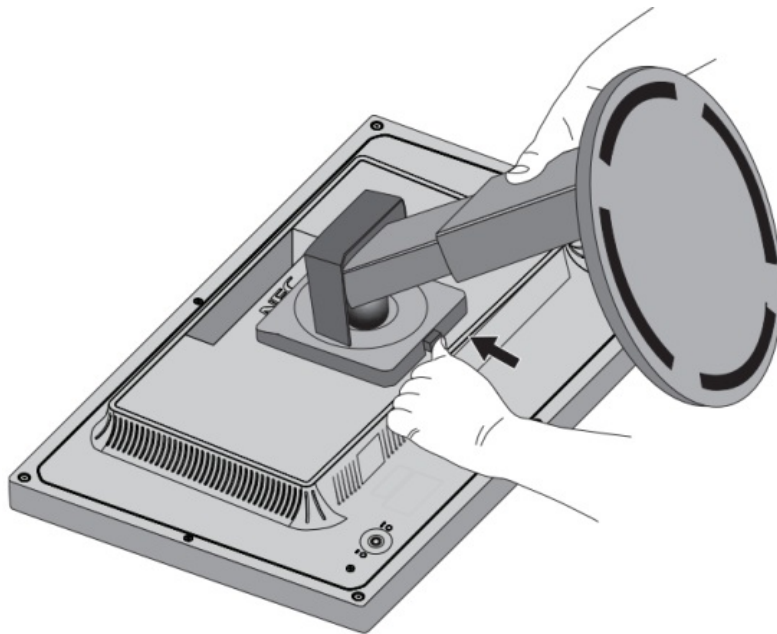

Figure S.1
3. Place monitor face down on a non-abrasive surface (Figure S.1).
Push and hold the Quick Release Lever in the direction indicated by the arrows (Figure S.1).
5. Lift up the stand to unhook it from the monitor (Figure S.1).